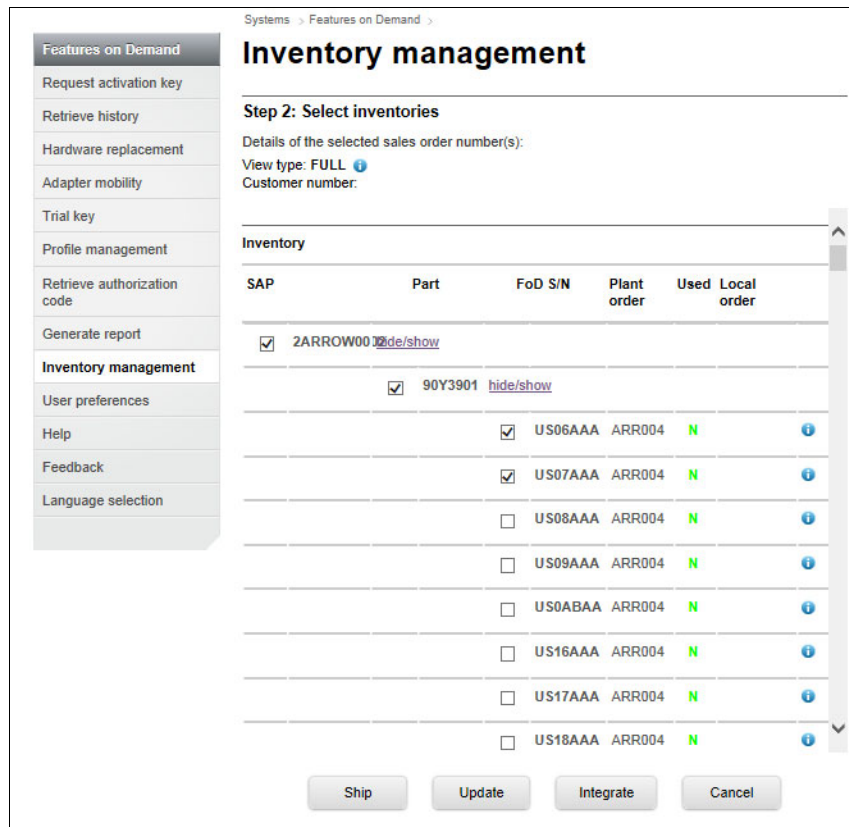

Figure 2-5 Code selection
3. Select one or more codes, as shown in Figure 2-5.